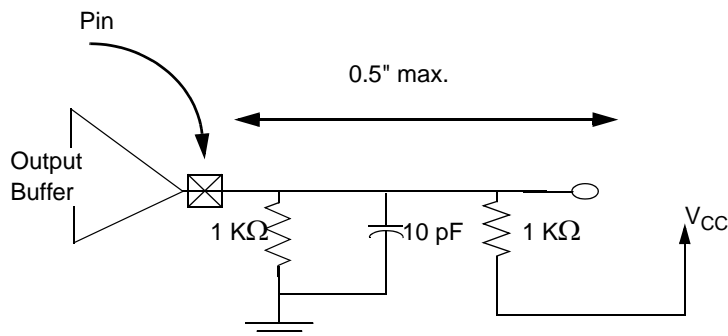

Figure 8-12. Testing Setup for Slew Rate and Minimum Timing
3. Rise slew rate does not apply to open-drain outputs. This parameter is interpreted as the cumulative edge rate across the specified range, according to the test circuit in Figure 8-12.